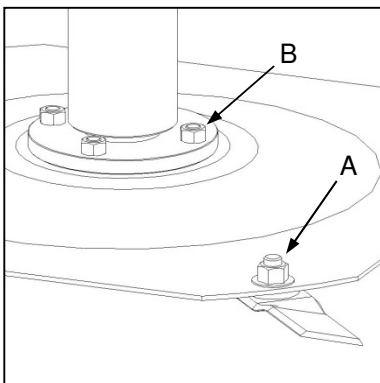
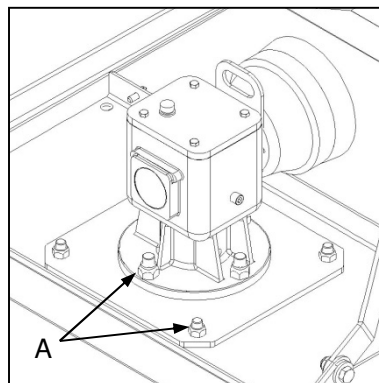
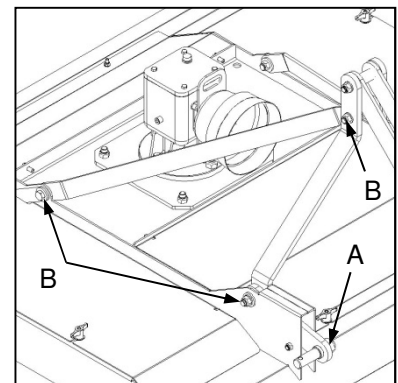

Fig. 1
Fig. 2 (F210 TurfPro)
Fig. 3 (F210 TurfPro)
- ✔ Check all fasteners for tightness. This includes special attention to safety-critical fasteners such as blade bolts and nuts (Fig. 1-A), cutting gear mounting bolts (Fig. 1-B), gearbox mounting bolts (Fig. 2-A), hitch points (Fig. 3-A) and mast retaining bolts (Fig. 3-B).
- ✔ Verseker dat alle hegstukke vas is. Dit sluit in spesiale aandag aan veiligheidskritieke hegstukke soos lemboute en -moere (Fig. 1-A), snymeganisme monterboute (Fig. 1-B), ratkas monterboute (Fig. 2-A), haakpunte (Fig. 3-A) en masklemboute (Fig. 3-B).